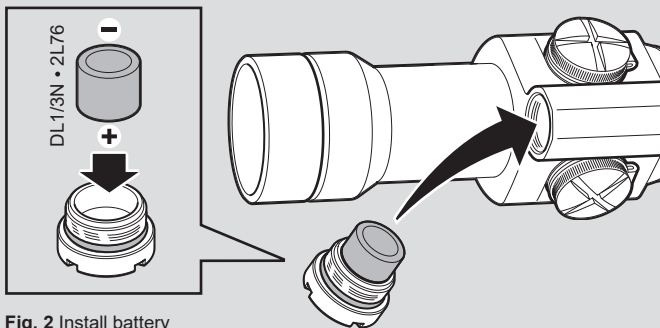

Fig. 2 Install battery
- Remove battery cap (1) by turning it counterclockwise using the Aimpoint tool (13B).
- Insert battery (2) with positive end (+) toward battery cap. See Fig 2.